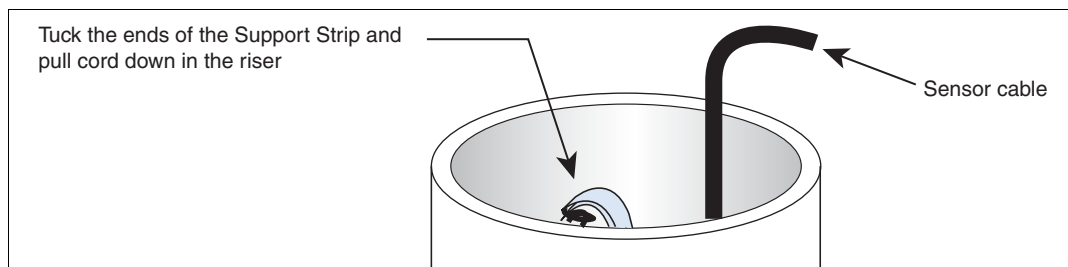

Figure 8.
6. Tuck the strip ends and pull cord down into riser (Figure 8). Consult the Interstitial Liquid Sensor installation manual for instructions on completing sensor installation (install riser cap, connect field wiring, etc.).